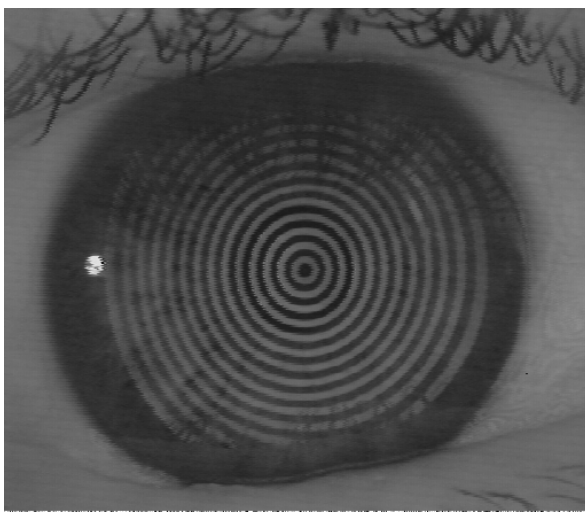
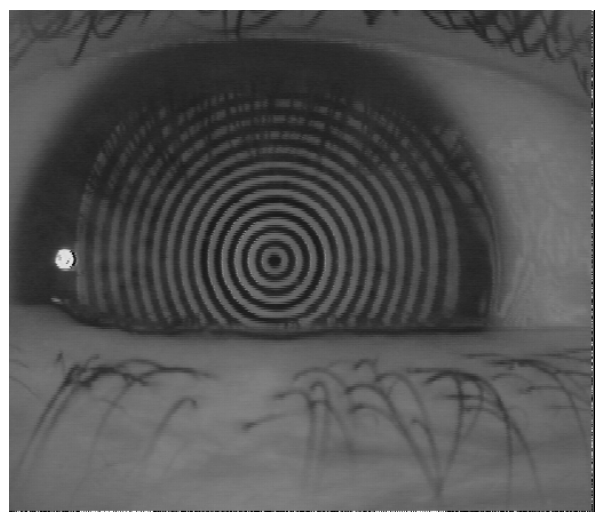

Fig.7 – Correct Approach
Fig.8 – Bad Approach
3. Tilt the cone possibly in its horizontal position. Only with patients having a leaned forehead or with children orientate the cone to 5° or 10° upwards (1 or 2 clicks). In such cases, however, you could need to be even higher than the patient. The cone should however approach close to the eyebrow (figures 7), so to avoid that the lower lid covers the eye too much (figures 8).